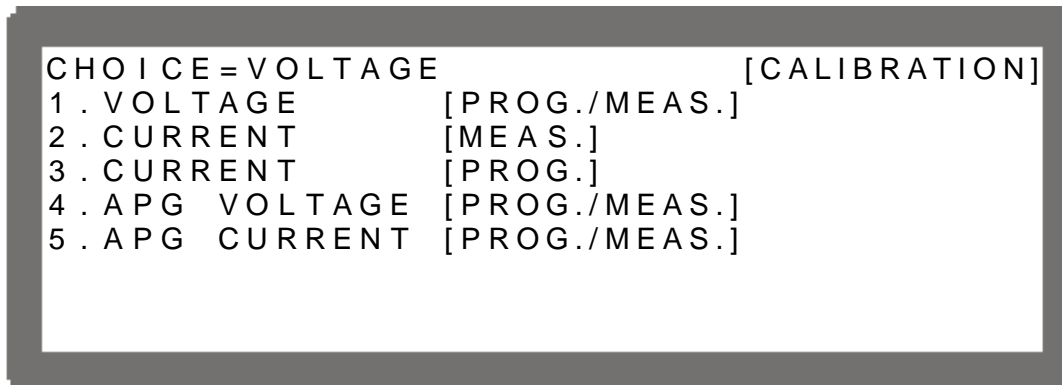

Figure 3-93
3. Enter the password and press “” to confirm. The screen will display four calibration options as Figure 3-93 shows. The calibration steps are described from section 3.3.7.1 to 3.3.7.5.
- Enter into the page of Figure 3-93.